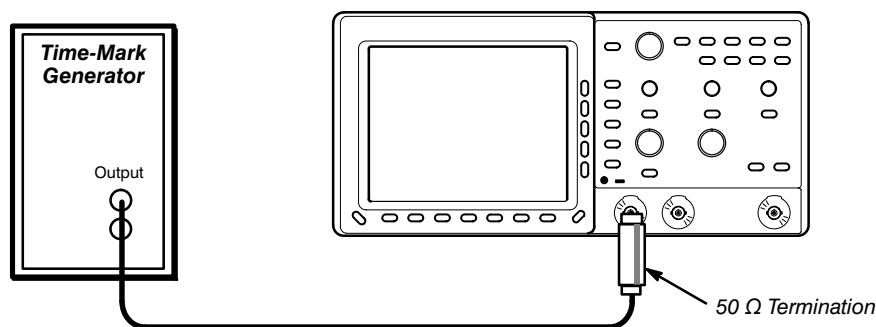

Figure 4-7: Hookup for Sample Rate Check
1. Connect, through a 50  $\Omega$  precision coaxial cable and a 50  $\Omega$  termination, the time-mark output of a time-marker generator to **CH 1**, as shown in Figure 4-7. Set the output of the generator for 10 ms markers.